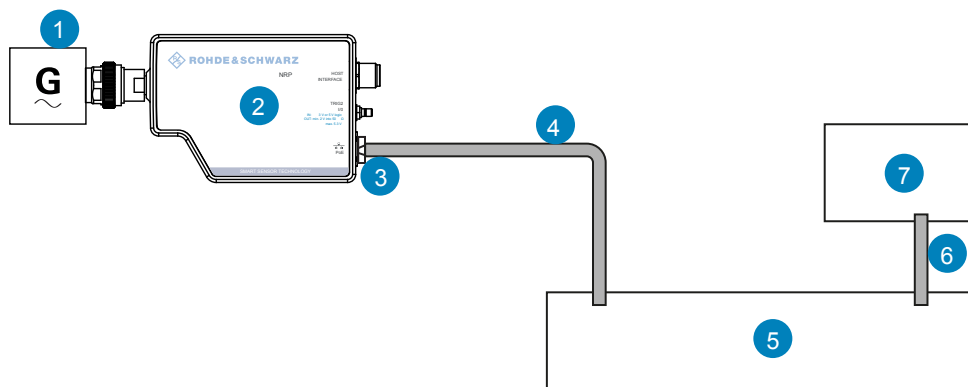

Figure 6-1: Setup with the web user interface
1. Connect the cables as shown in Figure 6-1.